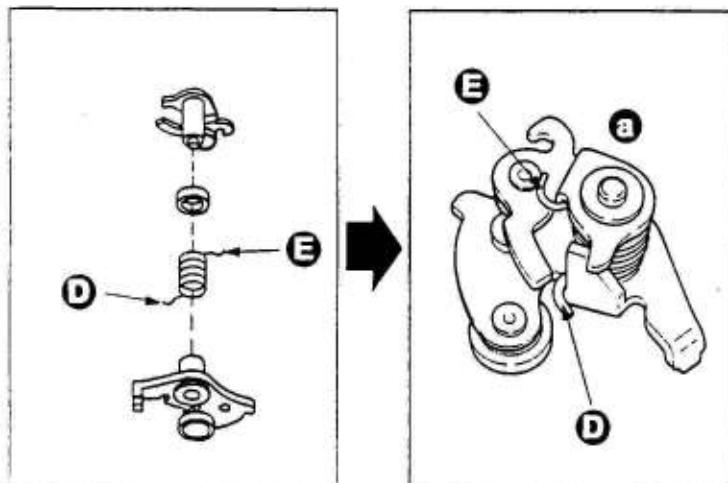

Fig.3
3. Subassemble the S. lever ass'y ② by hitching the hooks ④ and ⑤ of the spring as shown in Fig. 3, and then install to the substrate M.